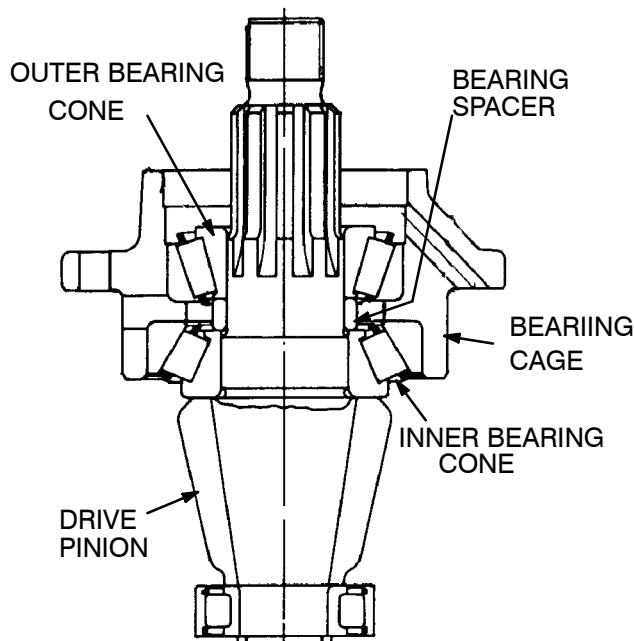

Figure 116.
- (5) Apply axle lubricant on bearing cups in the cage and bearing cones.
- (6) Install the drive pinion into the bearing cage.
- (7) Install the bearing spacer or spacers on pinion shaft against the inner bearing cone. Figure 116.
- (8) Install the outer bearing cone on pinion shaft against the spacer. Figure 116.